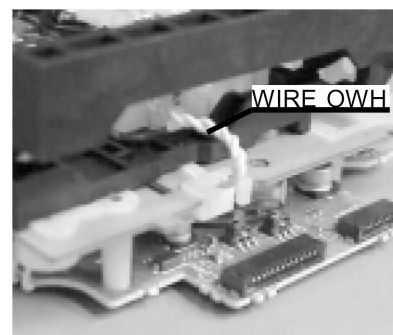

Fig.3-6
- 5) Ensure that the WIRE has an allowance so that the routing range of the WIRE OWH can be secured. (Fig. 3-6)